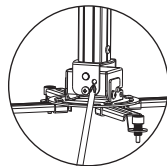

figure 13
2. Loosen the positioning screws (left and right) for adjusting the angle, and then rotate the screwdriver for fine turning to the required angle as figure 13.